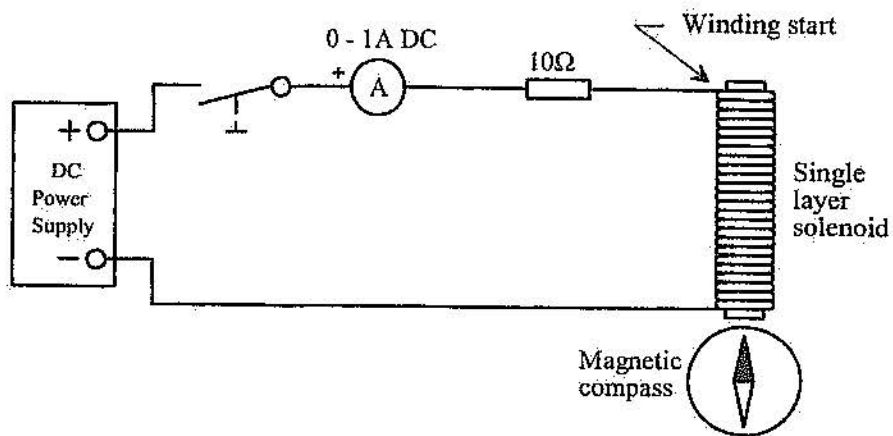

Figure 5
2. Connect the solenoid in circuit as shown in figure 5.